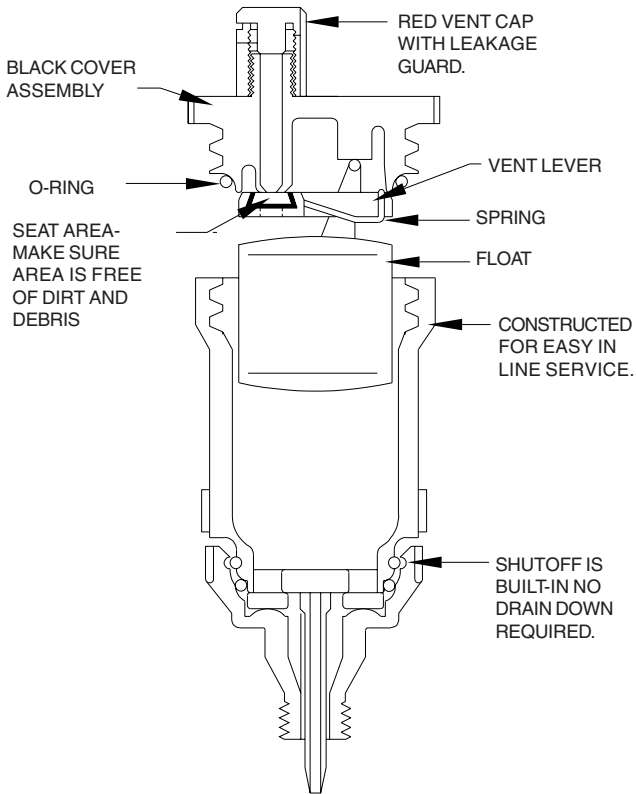

Figure 3
2. Remove the float assembly by unscrewing the top of the body and lifting the black cover assembly up (see figure 3).
5. Replace the float assembly, making sure that the O-ring is seated properly (see figure 3).
7. Operate by turning the air vent body counter clockwise to the open position. Use hands only (see figure 3).